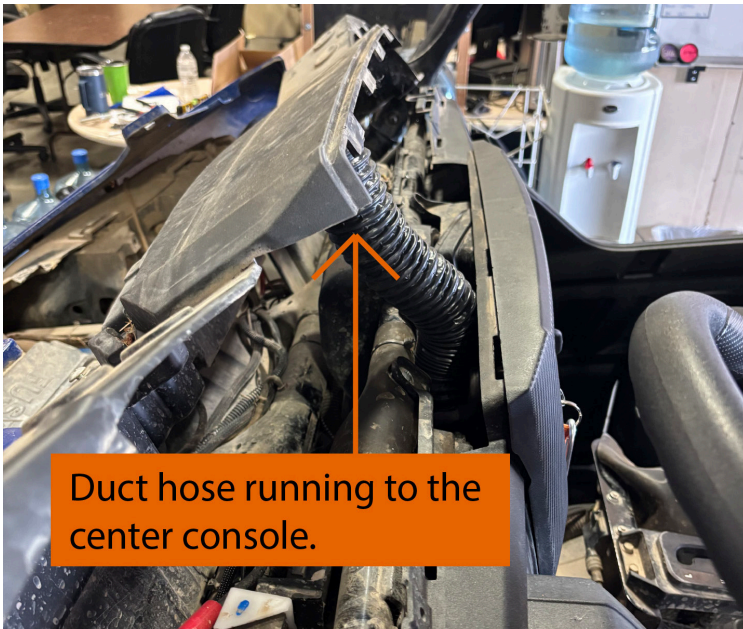

FIGURE 3
8. Route the 9" compressed hose from the driver side upper dash to the center console. FIGURE 3